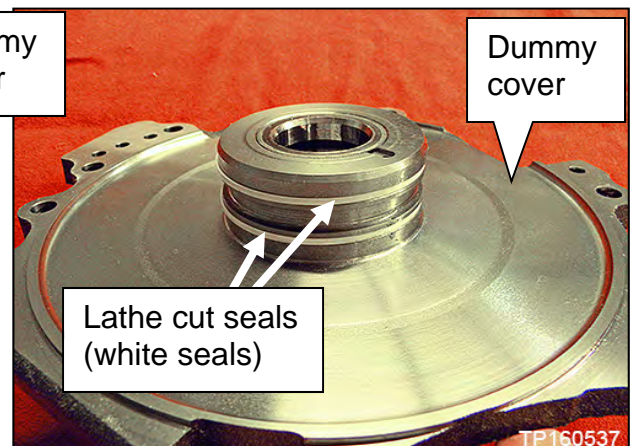

Figure 51
- Do NOT remove the lathe cut seals (white seals, Figure 51 from the dummy cover. These seals will be reused.